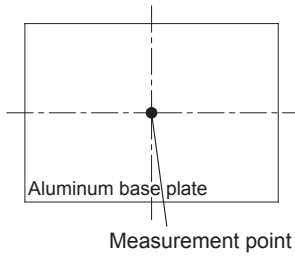
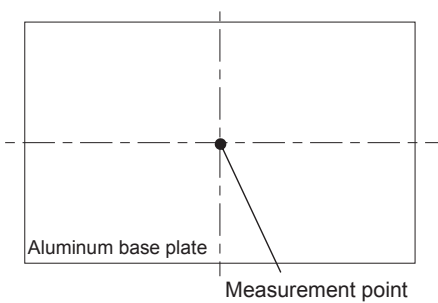

Fig.8.2.11 Measurement point (CHS120 option “B” and “BC”)
Fig.8.2.13 Measurement point (CHS400/CHS500/CHS700 option “B”)
■ For option “B” which is used with the convection cooling, forced air cooling or conduction cooling, use the temperature measurement location as shown in Fig.8.2.11 to Fig.8.2.13.